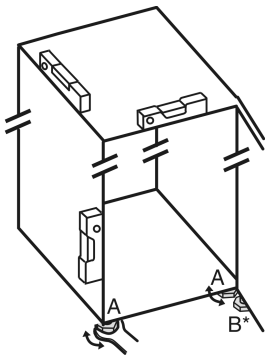

Fig. 28
- ▶ Unscrew the adjustable feet Fig. 28 (A) using the enclosed open-end spanner and a spirit level until the appliance is firmly aligned and level.
- ▶ Unscrew the adjustable foot Fig. 28 (B) on the swap bearing block with the enclosed open-end spanner until it rests on the floor.
- ▶ Turn the adjustable foot Fig. 28 (B) 90° further.